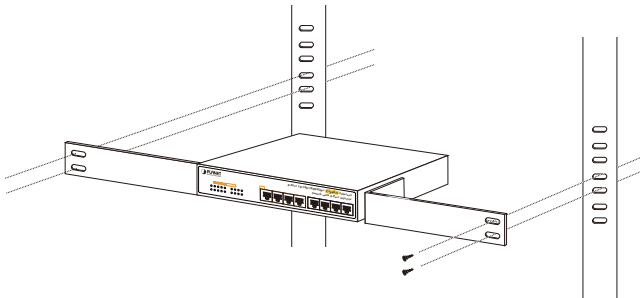

Figure 3-2: Mounting the Switch in a Rack
Step 5: After the brackets are attached to the Switch, use suitable screws to securely attach the brackets to the rack, as shown in Figure 3-2.